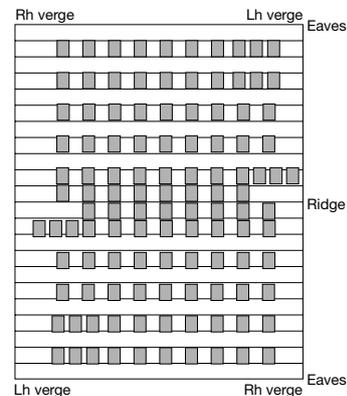

Fig. 1 Loading roof evenly with slate stacks
- Load slates and fittings out on roof safely, support by battens to avoid slippage and distribute evenly to prevent overloading of roof structure (Fig. 1).